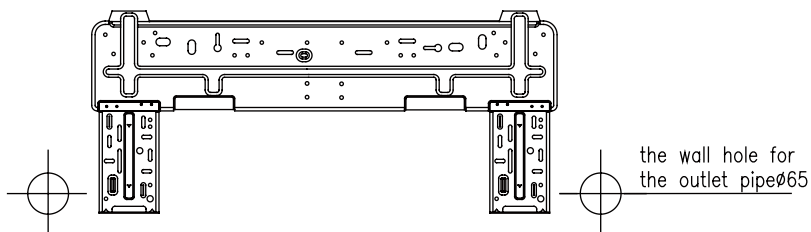

Fig.1
- D. The diameter showed in Fig.1 is 65mm.
- A. Make the piping hole (Φ 65mm) in the wall at a slight downward slant to the outdoor side. The center of the hole should be determined referring to Fig.1